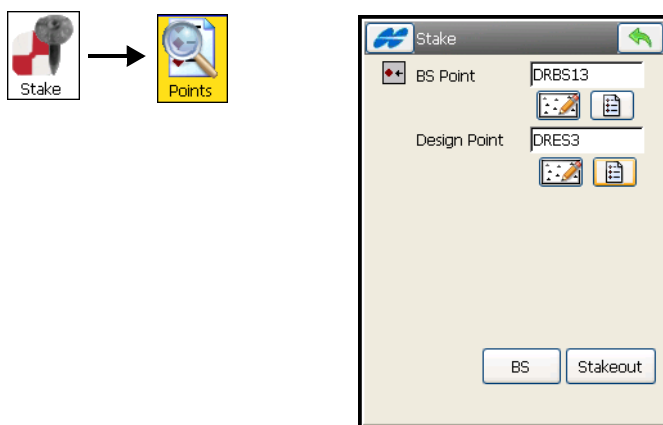

Figure 9-64. DL Stake Point
2. On the *Stake* screen (Figure 9-64 on page 9-47), enter or select from the map or list the backsight point for the stake measurement and a design point to stake.